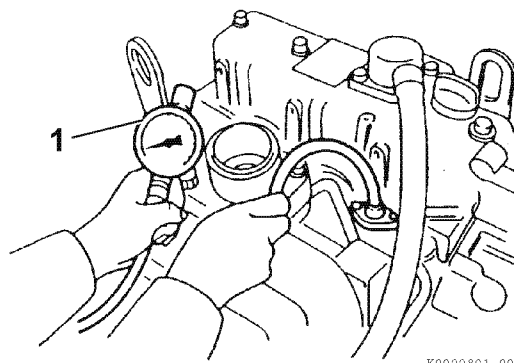

Figure 13-1
3. Turn off the fuel supply valve in the fuel supply line. Disconnect the fuel injection stop solenoid at the connector. Crank the engine for a few seconds with the stop solenoid disconnected (no injection state) before installing the compression gauge adapter (**Figure 13-1, (1)**), **this will expel any residual fuel from the cylinder.**